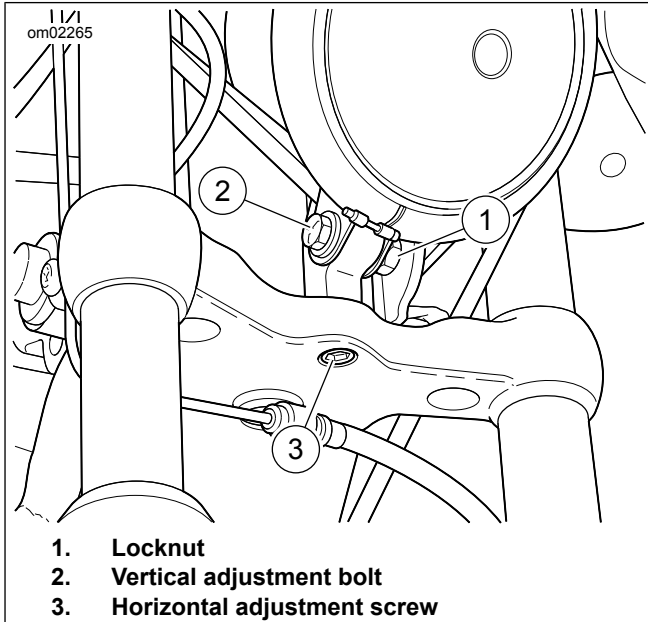

Figure 69. Headlamp Adjustment: XL1200C, XL1200CX, XL1200X, XL1200XS
- a. See Figure 69. Loosen horizontal adjustment screw (3).